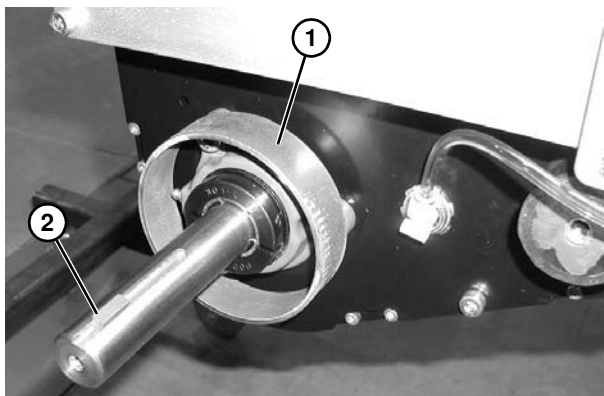

Figure 169
4. Remove spacer ring (**Figure 169, item 1**) and key (**Figure 169, item 2**).